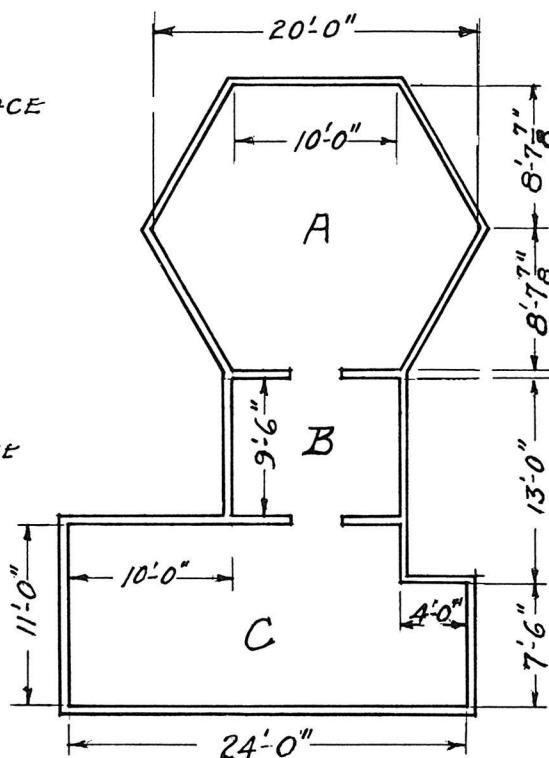

Fig. 7
5. In the room "A" shown in Figure 7, how many square yards of laths will it take to lath ceiling?
6. How many square yards of lathing will it take to lath the ceilings "B" and "C" in Figure 7?
7. If the walls in Figure 7 are 8'-6" high, how many square yards of lathing are called for if the openings total 112 sq. ft.?